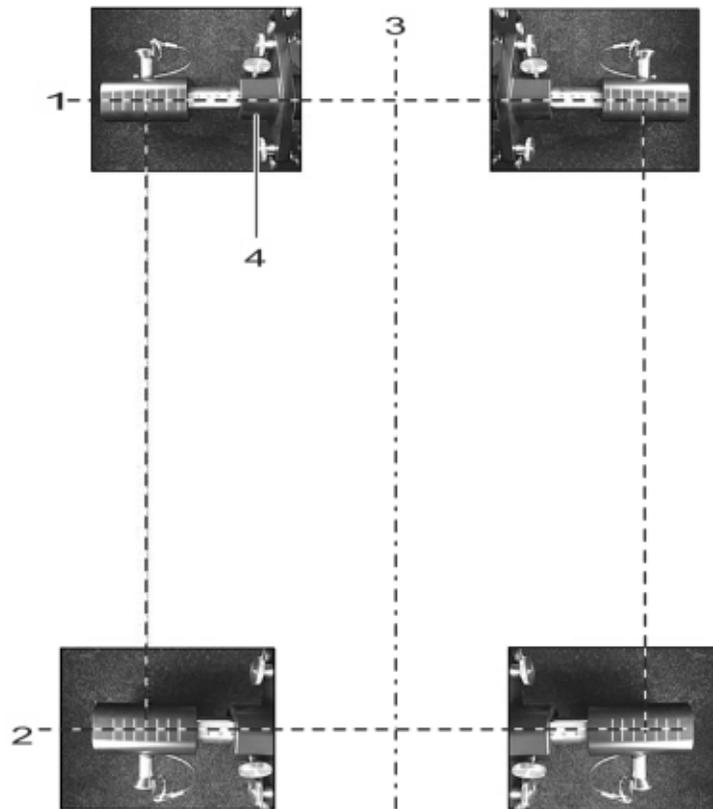

Figure 49
- ⇒ **Figure 49 -1** – Axle 1
- ⇒ **Figure 49 -2** – Axle 2
- ⇒ **Figure 49 -3** – Vehicle's central axis
- ⇒ **Figure 49 -4** – Measuring gear with laser shaft and toe laser